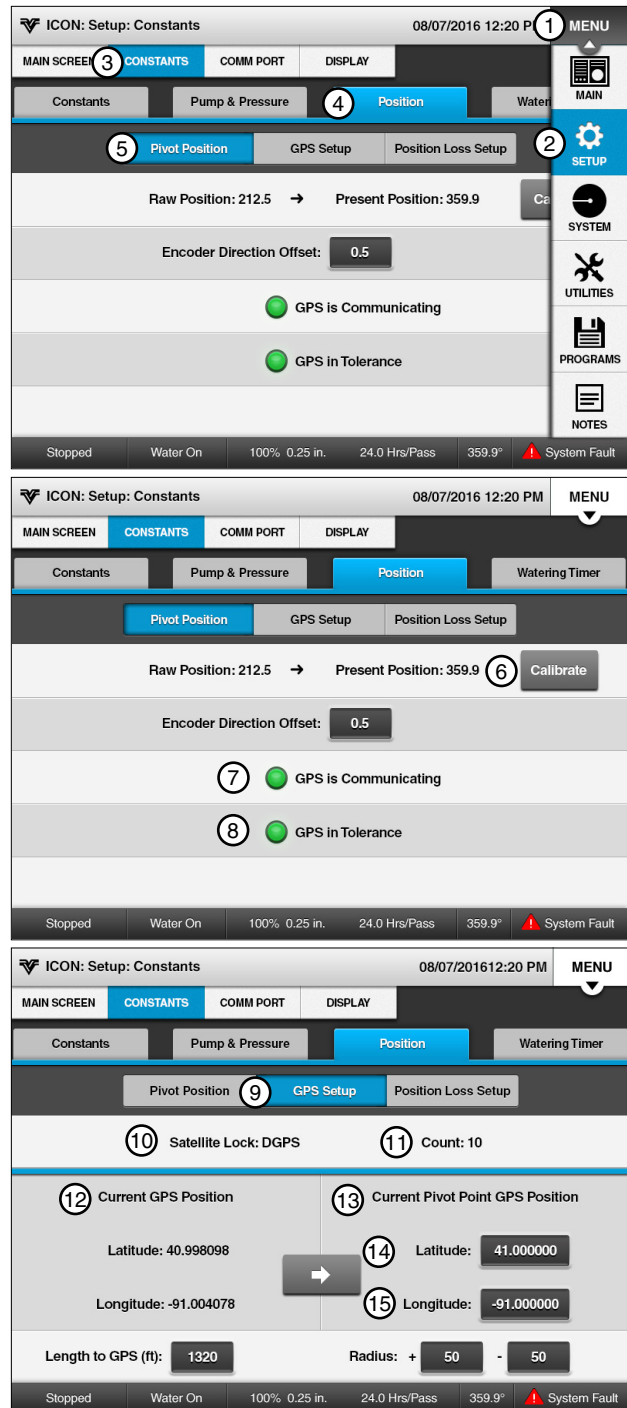

Figure 46-1
5. To view the GPS Setup screen push **GPS Setup**. See Figure 46-1.